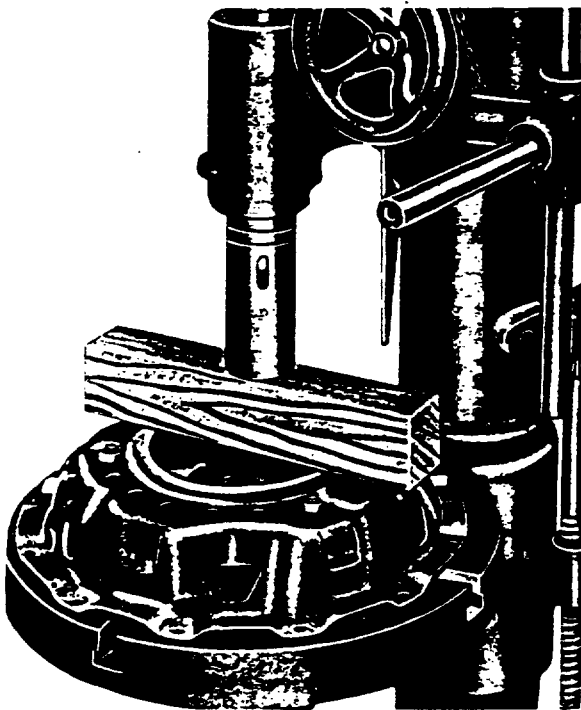

Figure 5-10. Compressing Clutch
3. Place a block of wood, such as a two by four, across cover plate in a position that does not interfere with tips of release levers, as shown in Figure 5-10. Compress clutch assembly slightly, removing lever adjusting screw locknuts.